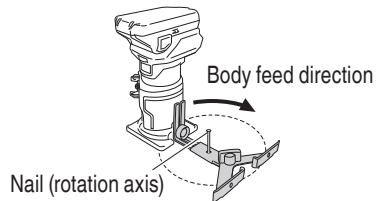

Fig. 24
- (3) Installation to the tool is the same as that for straight line processing.
- (4) Align the hole of the circle processing, in the center position of the circle processing, and firmly secure with a nail less than 6 mm in diameter which will act as a rotation axis. Rotate the body towards the right. (Fig. 24)